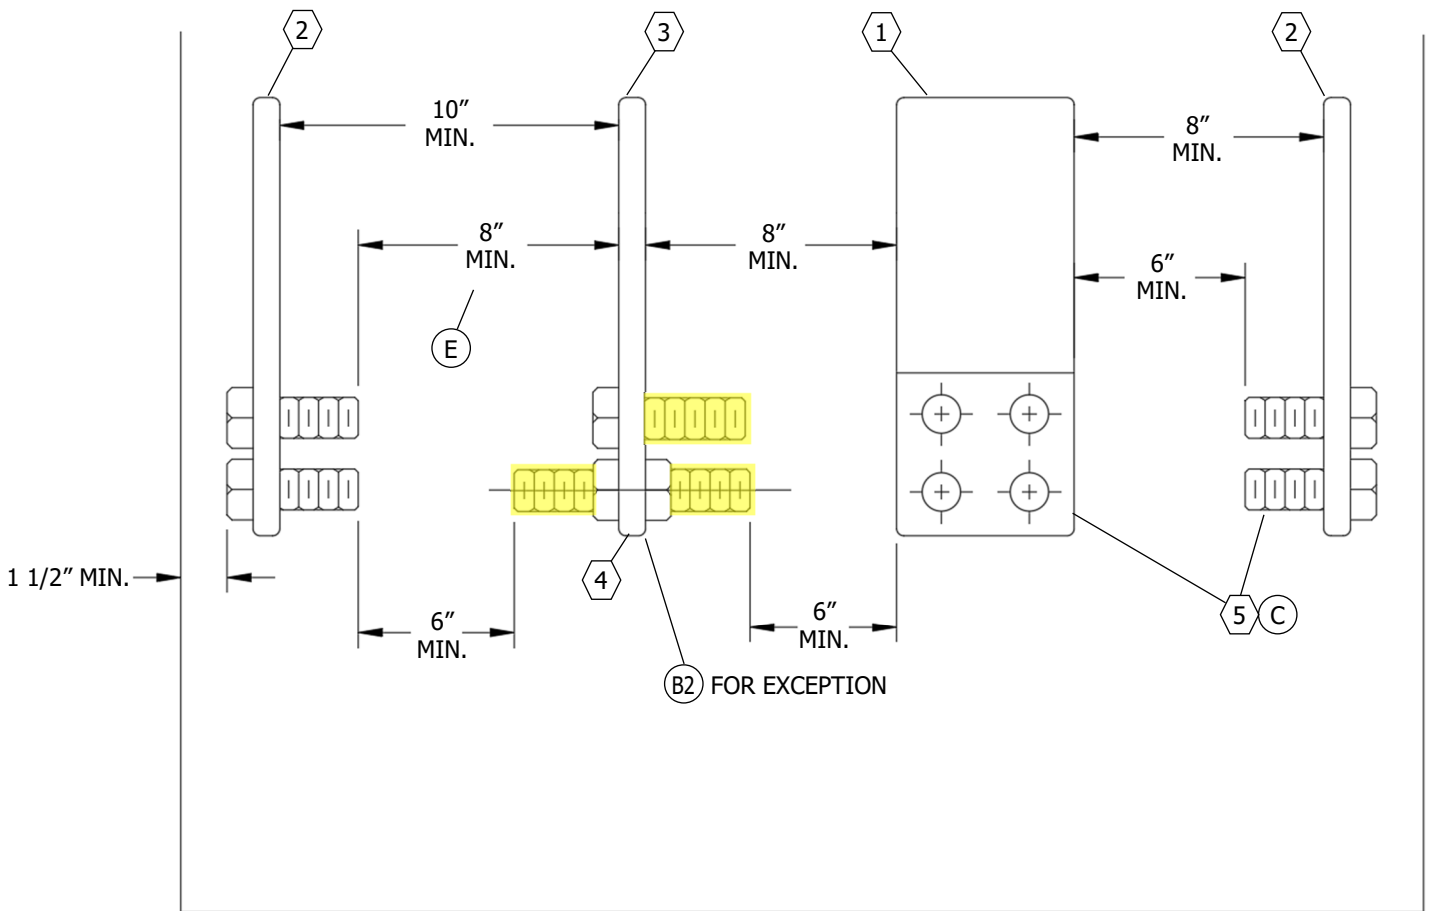

FIGURE 3
- E EACH TERMINATING FACILITY SHALL HAVE AN UNOBSTRUCTED WORKING SPACE, ACCESSIBLE FROM FRONT OF THE UGPS AS VIEWED FROM ACCESS COMPARTMENT OPENING, IN FRONT OF ENTIRE MOUNTING SURFACE AS SHOWN IN FIGURES 3 AND 4. NO MORE THAN ONE TERMINATION FACILITY MAY BE MOUNTED ALONG A SIDE WALL. WHEN VIEWED FROM FRONT OF THE PULL CAN OR UGPS, NO OTHER TERMINATION OR CABLES IN PLACE SHALL IMPAIR THE 8-INCH MINIMUM WORKING CLEARANCE. UNINSULATED BUSES OF DIFFERENT POTENTIALS SHALL NOT BE PERMITTED BELOW OR BEHIND ANY TERMINATING POSITION AS VIEWED FROM FRONT OF THE UGPS. IF CROSS-BUSSING IS INSTALLED BELOW OR BEHIND A TERMINATING POSITION, CROSS-BUSSING SHALL BE FULLY INSULATED OR BARRIERED.